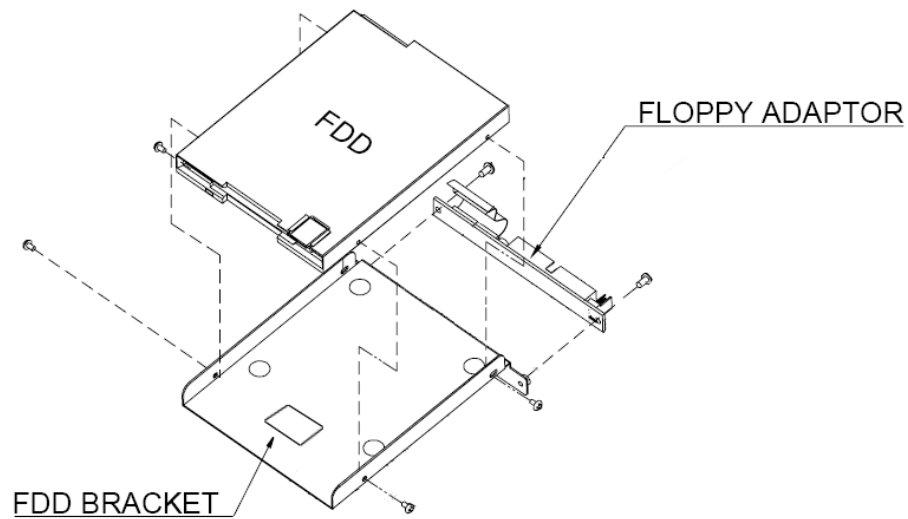

Figure 3-4: FDD Adapter and FDD Bracket Installation
- Step 2:** Attach the FDD adapter to the FDD by aligning the two retention screw holes in the FDD adapter with the retention screw holes on the rear side of the FDD bracket. Insert two retention screws into the adapter. (See **Figure 3-4**) Connect the FDD adapter and FDD with the twisted cable.